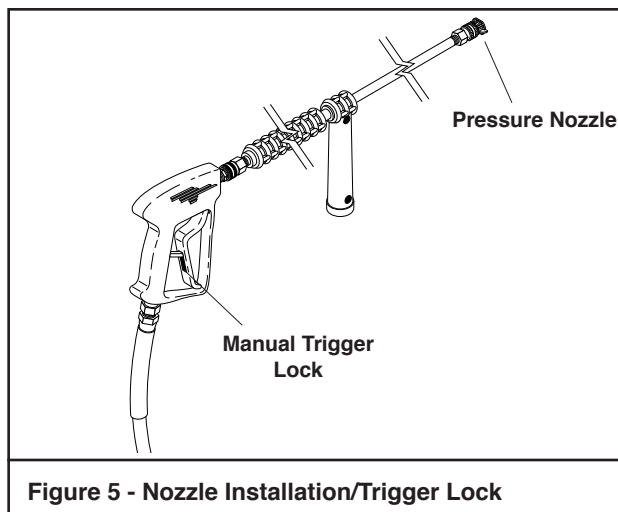

Figure 5 - Nozzle Installation/Trigger Lock
1. Install the proper pressure nozzle for your cleaning needs on the end of the wand. Refer to Figure 5.
**IMPORTANT:** The trigger gun provided with this pressure washer is equipped with a manual trigger lock to prevent accidental operation of the trigger gun; refer to Figure 5. The trigger lock should be used whenever the trigger gun is not in use.